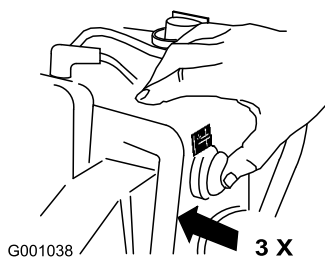

Figure 26
6. Firmly push in the primer 3 times with your thumb, holding the primer in for a second before releasing it each time (Figure 26).